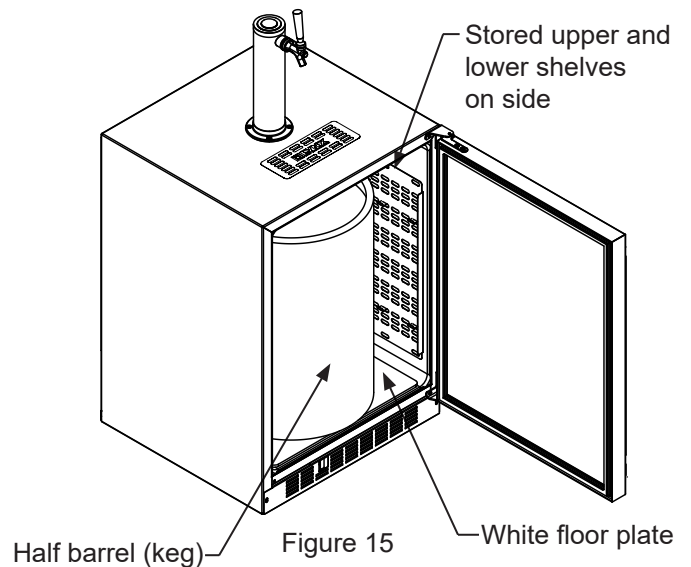

Figure 15
If you are using a half barrel (keg) or (2) 1/6 barrels, place the two shelves on the right side of the keg dispenser on the two mounting hooks for storage. (See Figure 15). Be sure the white floor plate is in the bottom of the interior compartment before positioning the barrel(s).